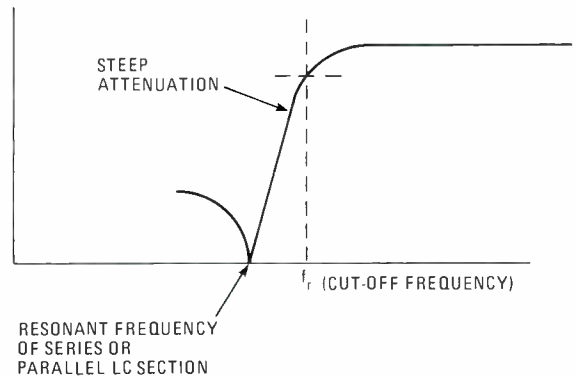

Fig. 22—An m-derived high-pass filter also has a steep (faster) attenuation than that of a simple filter.
47. (above) The resonant effects of m-derived circuits can also be applied to high-pass filters, as shown in Figs. 20C and 20D. Both series and shunt versions are shown. A typical response curve is illustrated in Fig. 22. Note the deep notch of attenuation that occurs just below the cut-off frequency; it is